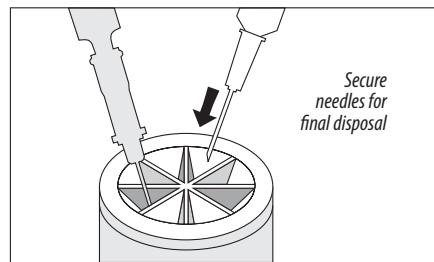

Figure 20
- Using one-handed technique, firmly push needles into disposal cup holes (refer to Figure 20).